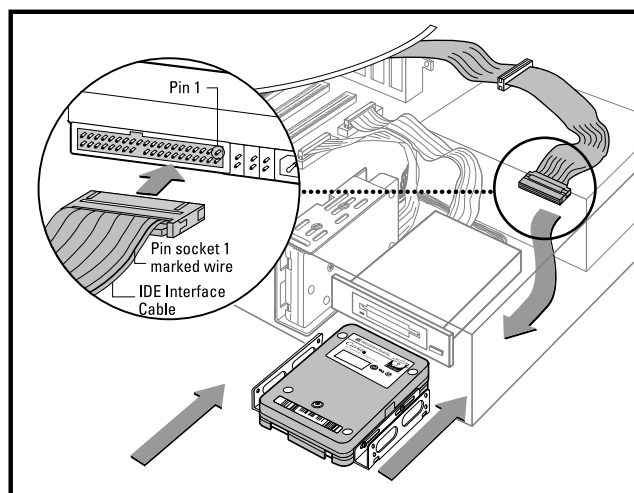

Figure 3. Attaching IDE Cable to the Hard Drive
2. Attach the end of the 40-pin interface cable to the 40-pin connector on the back of the Western Digital hard drive. Match pin socket 1 on the IDE cable (indicated by a color stripe on the cable) to pin 1 on the Western Digital hard drive. See Figure 3.
**Dual Installations:** Connect the two hard drives by using a three-connector IDE interface cable. A three-connector IDE interface cable is included in this package. Match the orientation of pin socket 1 on the 40-pin three-connector IDE cable to pin 1 on the drive connector. See Figure 3.